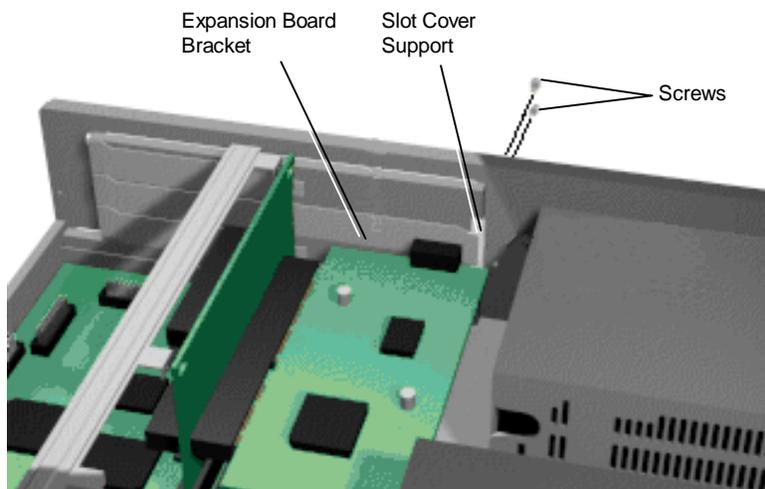

Figure 3-7 Attaching the Slot Cover Support
5. Hold the slot cover support over the expansion board bracket and replace the two screws removed earlier (see Figure 3-7). The slot cover support secures the expansion board in place.